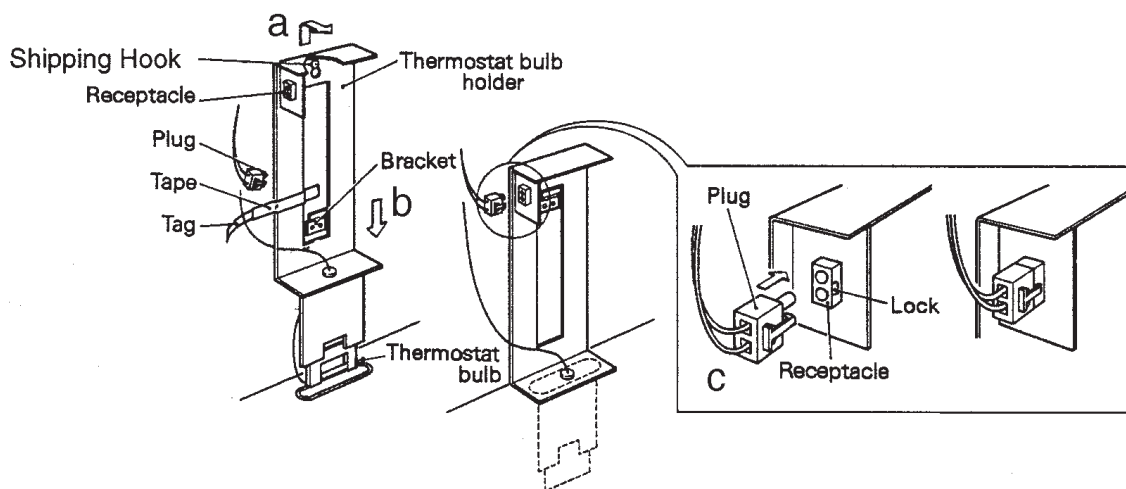

Fig. 3
- 5) Set the bin control thermostat bulb as follows. See Fig. 3.